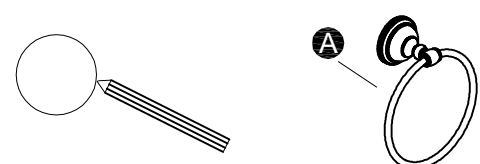

Fig. 1
1. Position towel ring **A** on wall where desired, and lightly mark outline of the post on towel ring **A** with pencil (Fig. 1).